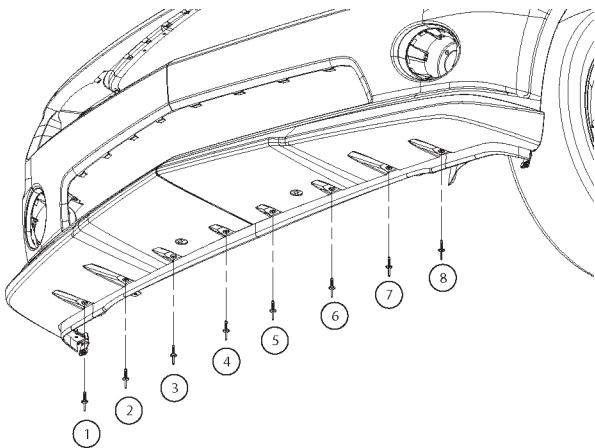

FIGURE 39
16. Fasten cladding to fascia using 8 plastic rivets. Refer to figure 39.